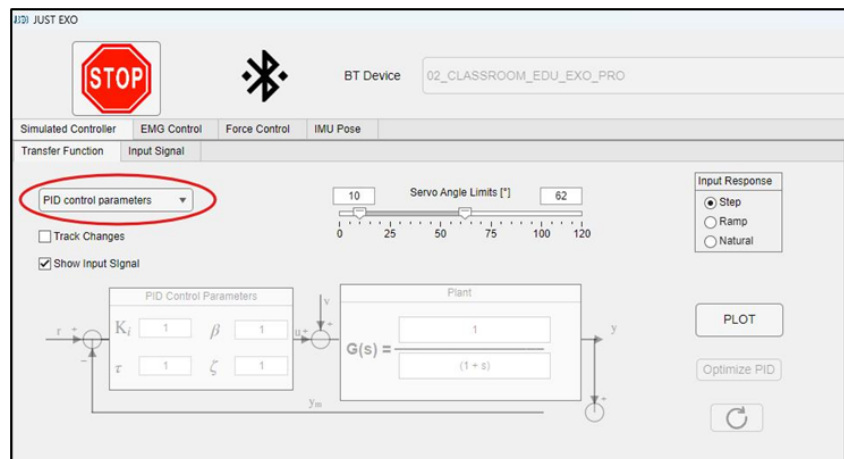

Figure 13: In the dropdown menu (red) choose controller.
3. In the dropdown menu, choose which controller you want to work with. See Figure 13.